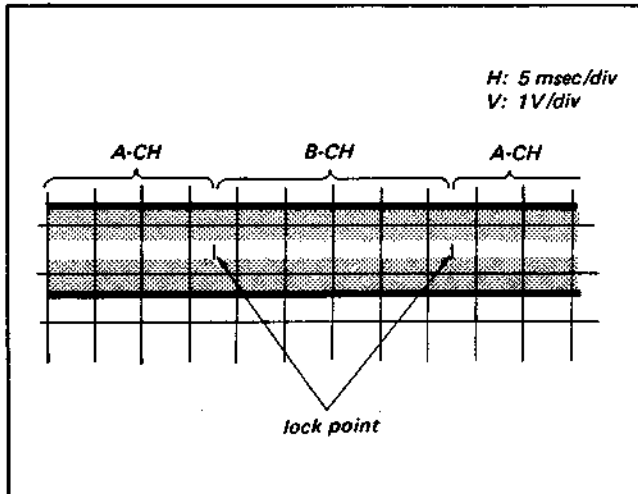

Fig. 4-4-20. AFC offset adjustment
- (3) Adjust RV23 so that the lock points of the A-CH and the B-CH are at the points shown in Fig. 4-4-20.